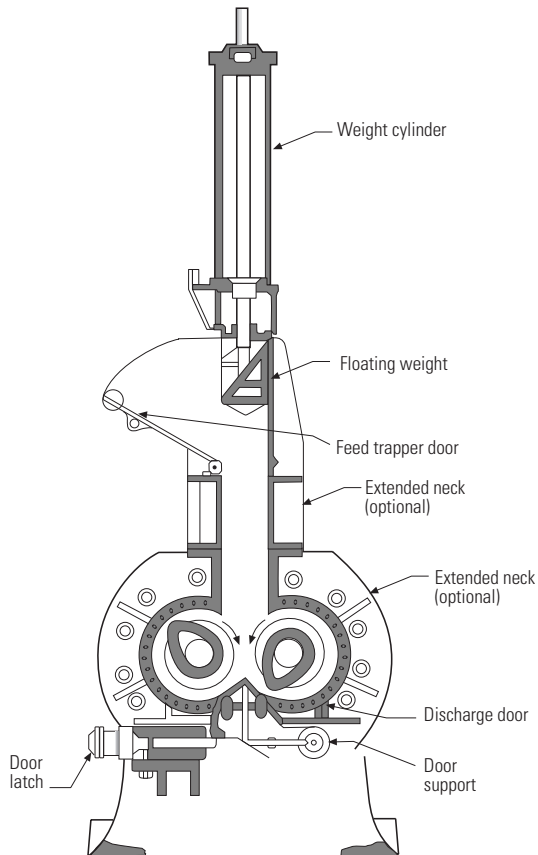

Figure 5.
- iv. Rubber and plastic compounds present unique mixing challenges because of their high elasticity. High shearing forces are required, and a common solution is the Banbury® mixer (See figure 5). This high-torque, low RPM mixer shears material between two thick blades and the mixer wall. It typically has thick shafts and requires very high HP per unit volume for mixing. As the friction is very high, temperatures of the materials will rise. Potential for off-product or degradation can occur unless there is a cooling jacket. Shear forces are not especially high, however mixing is usually done under pressure as a mechanical ram forces material to the blades. These mixers are great for granular dispersions in plastics and for other compounding operations.